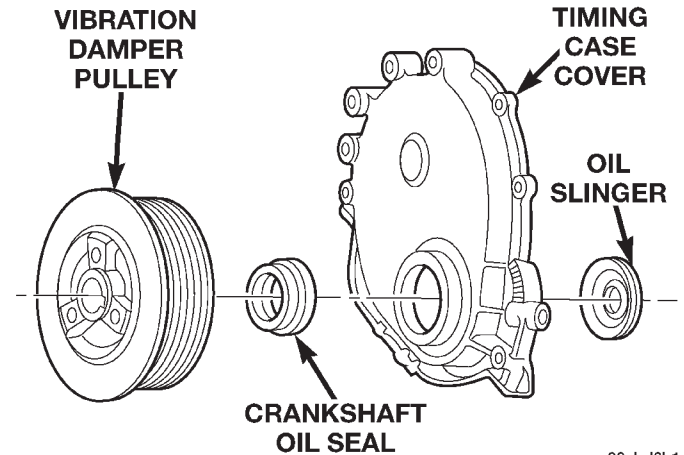

Fig. 42 Timing Case Cover Components
(1) Disconnect negative cable from battery.
(2) Remove accessory drive belt (Refer to Group 07, Cooling System for proper procedure)
(3) Remove the accessory drive brackets that are attached to the timing case cover.
(4) Remove the fan and hub assembly and remove the fan shroud.
(5) Remove the A/C compressor (if equipped) and generator bracket assembly from the engine cylinder head and move to one side.
(6) Remove the vibration damper (Fig. 42).
(7) Remove the oil pan-to-timing case cover bolts and timing case cover-to-cylinder block bolts.
(8) Remove the timing case cover and gasket from the engine.
(9) Pry the crankshaft oil seal from the front of the timing case cover (Fig. 42).